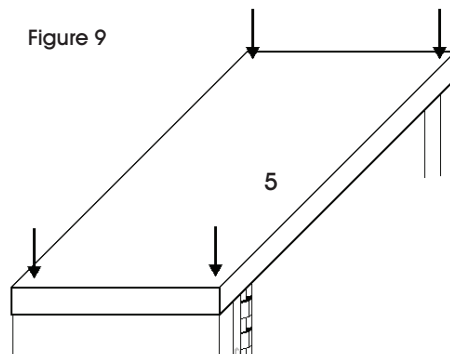

Figure 9
- Once both posts are started, tap evenly down on the top (5) with a rubber mallet until it is just past the side and back panels. (See Figure 9)